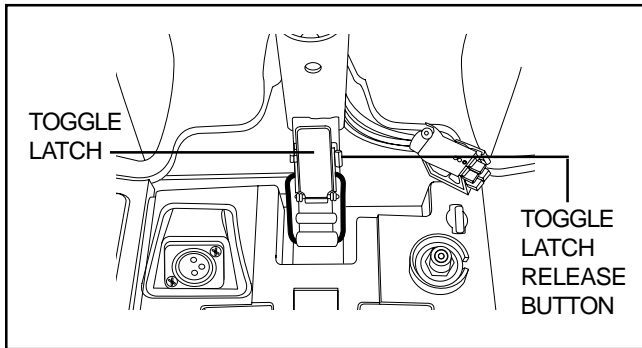

Figure 18. Toggle Latch (Latched)
1. Push in the toggle latch release button while pulling back the toggle latch. See figure 18.
5. Secure the toggle latch. See figure 18.